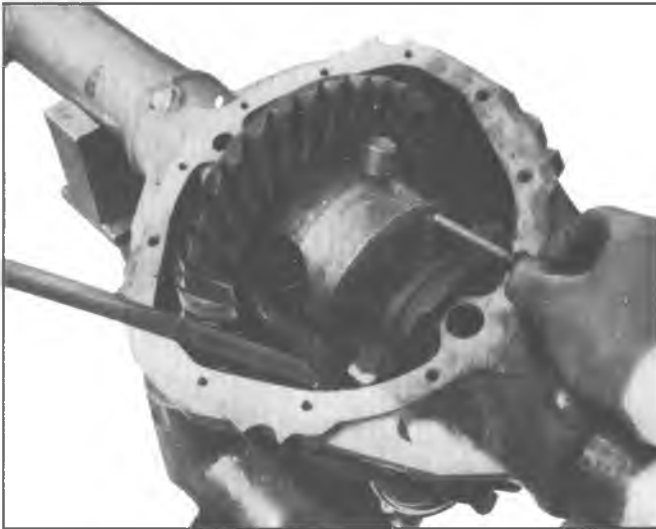

Fig. 13--Removing Lock Screw
3. Rotate the case to the position shown in figure 13. Support the pinion shaft so that it cannot fall into the case, then remove the lock screw.